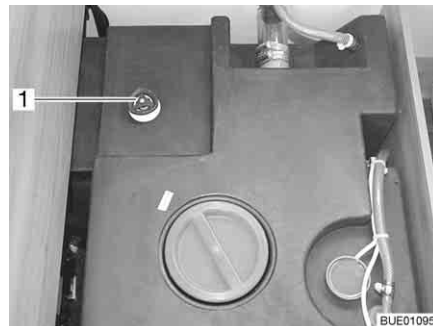

Fig. 209 Water tank with handle
- Turn the handle (Fig. 209,1) on the water tank in an anticlockwise direction as far as possible beyond the resistance to fully open the drainage opening.